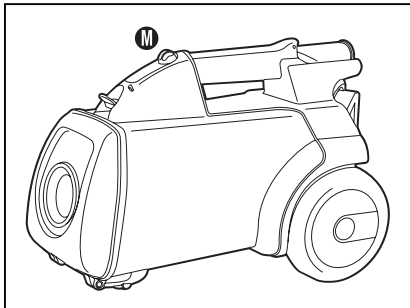

Fig. 8
**Step 7:** Push on/off switch (M). Press once to turn on. Press again to turn off (Fig. 8).
**Step 5:** Push on/off switch (M). Press once to turn on. Press again to turn off (Fig. 8).